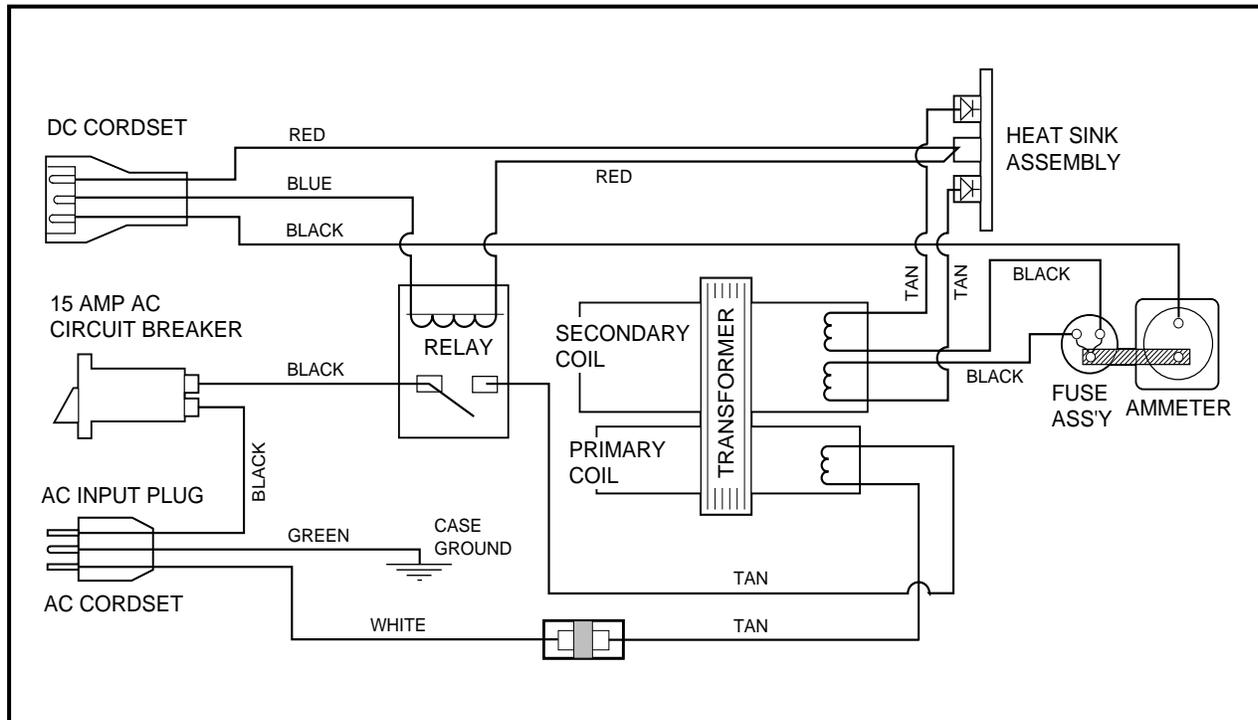
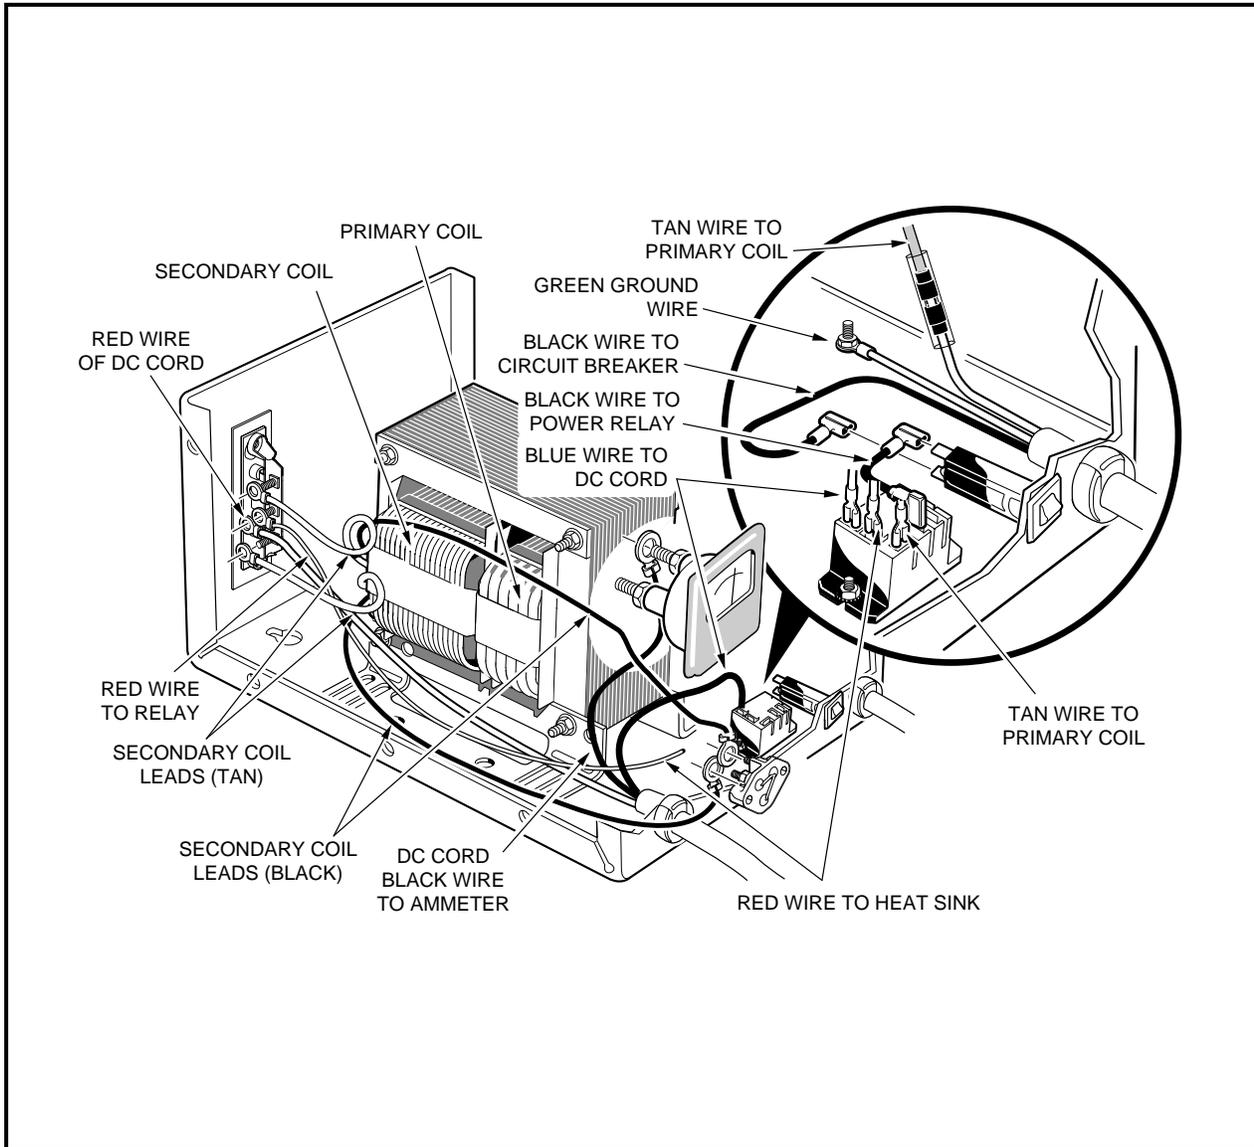

Figure 14-5 PowerDrive Battery Charger Wiring Diagram
Figure 14-6 PowerDrive Battery Charger
3. If the charger does not operate as in steps 1 or 2 above, refer to the wiring diagram (**Figure 14-5, Page 14-7**) and make sure the charger is wired correctly.
- KNOWLEDGE OF BATTERY CHARGER WIRING AND COMPONENT TERMINOLOGY IS REQUIRED BEFORE ATTEMPTING ANY REPAIR (SEE FIGURE 14-5 AND FIGURE 14-6, PAGE 14-8).